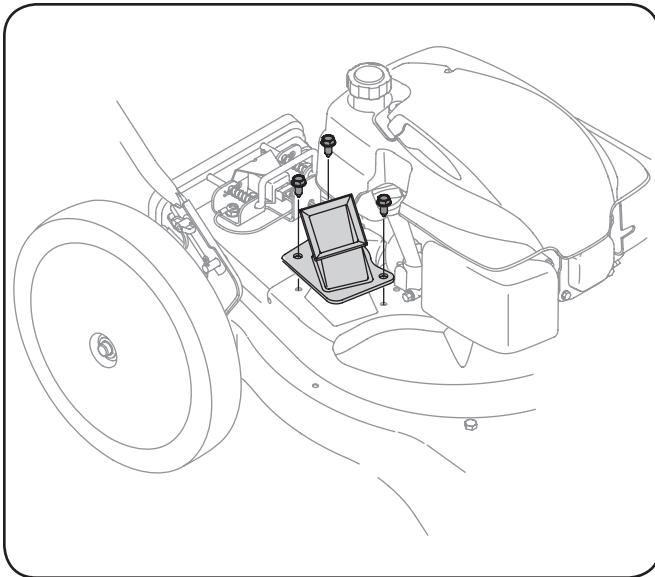

Figure 7-1
3. Remove the three hex cap screws holding the chipper chute to the upper housing. See Fig. 7-1.